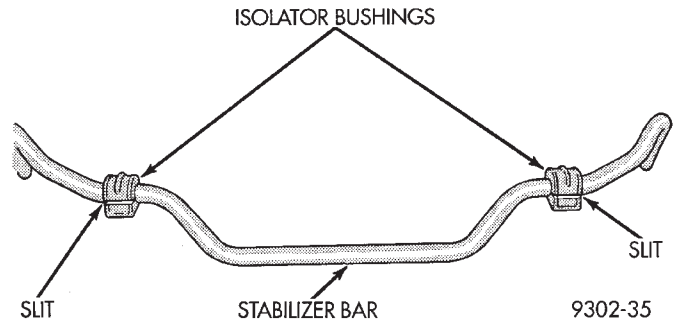

Fig. 7 Isolator Bushings Installed On Stabilizer Bar
(2) Remove the stabilizer bar isolator bushing retainers from the isolator bushings.
(3) Inspect for broken or distorted retainers and bushings. If bushing replacement is required, bushing can be removed by opening slit in bushing and removing bushing from around stabilizer bar. The stabilizer bar to cradle assembly bushings, should be positioned on stabilizer bar, so slit in bushing is positioned toward front of vehicle (Fig. 7).